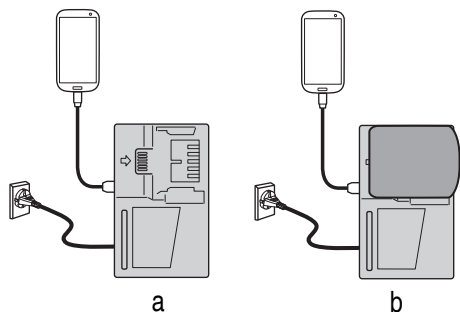

Fig. 24
- Charging a USB device from a electrical outlet (**Fig. 24-a**).
- Charging a USB device and battery from a electrical outlet. (**Fig. 24-b**)